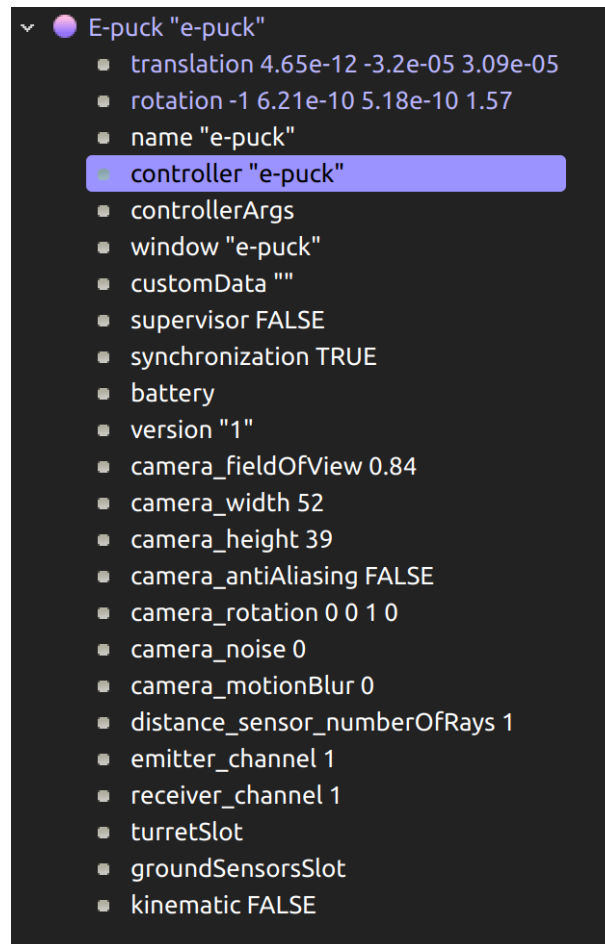

Figure 3- Locating the robot controller in e-puck scene tree.
4. By clicking on the arrow next to E\_puck “e-puck” in the Scene Tree, positioning yourself on the *controller* field and clicking Edit, the source code of the controller that the e-puck runs will be displayed in the Text Editor. See Figure 3 for more information.